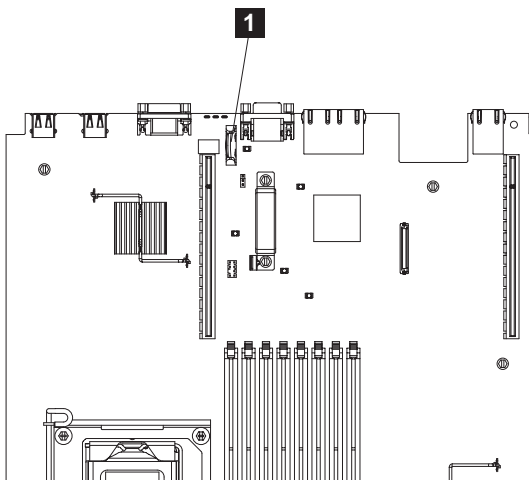

Figure 131. Location of the SAN Volume Controller 2145-CG8 or 2145-CF8 CMOS battery holder
7. Locate the battery **1** on the system board. Figure 131 shows the location of the battery.